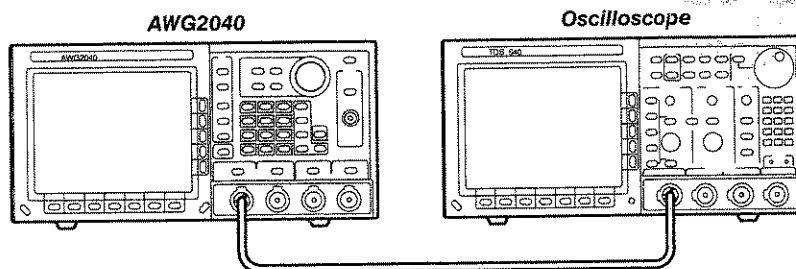

Figure E-8: Burst Mode Initial Test Hookup
- a. *Hook up the oscilloscope:* Connect the AWG2040 CH1 output connector through the coaxial cable to the CH1 vertical input connector on the oscilloscope (see Figure E-8).